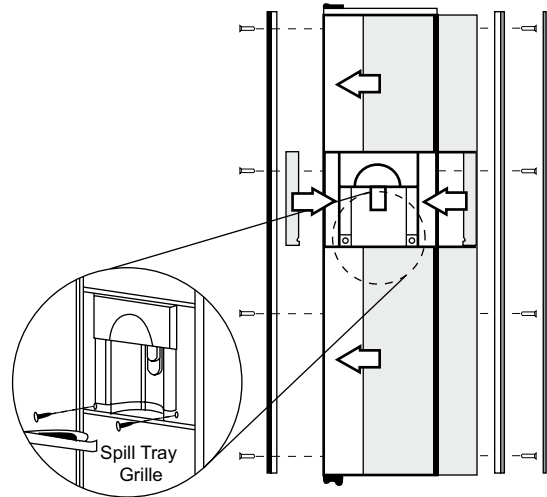

Fig. 9
See Owner Manual for switching "OFF / O" the unit. Reference Fig. 9 for door panel removal and installation. With panels removed reattach hinge trim. Life slide out Spill Tray grille and remove 2 Torx screws ①, ②. Remove stainless steel liner ③. Remove 2 Torx screws from the control panel ④. Slide control panel down to remove. Disconnect terminals on back of control panel ⑤. Tuck dispenser terminal inside to avoid interfering with one-piece panel ⑥. Open door and slide one-piece panel into position. Reconnect control panel to dispenser terminal. Reattach control panel with 2 Torx screws. Reposition stainless steel liner into track and secure with 2 Torx screws. Reinstall the Spill Tray grille and door trim. Turn unit on.